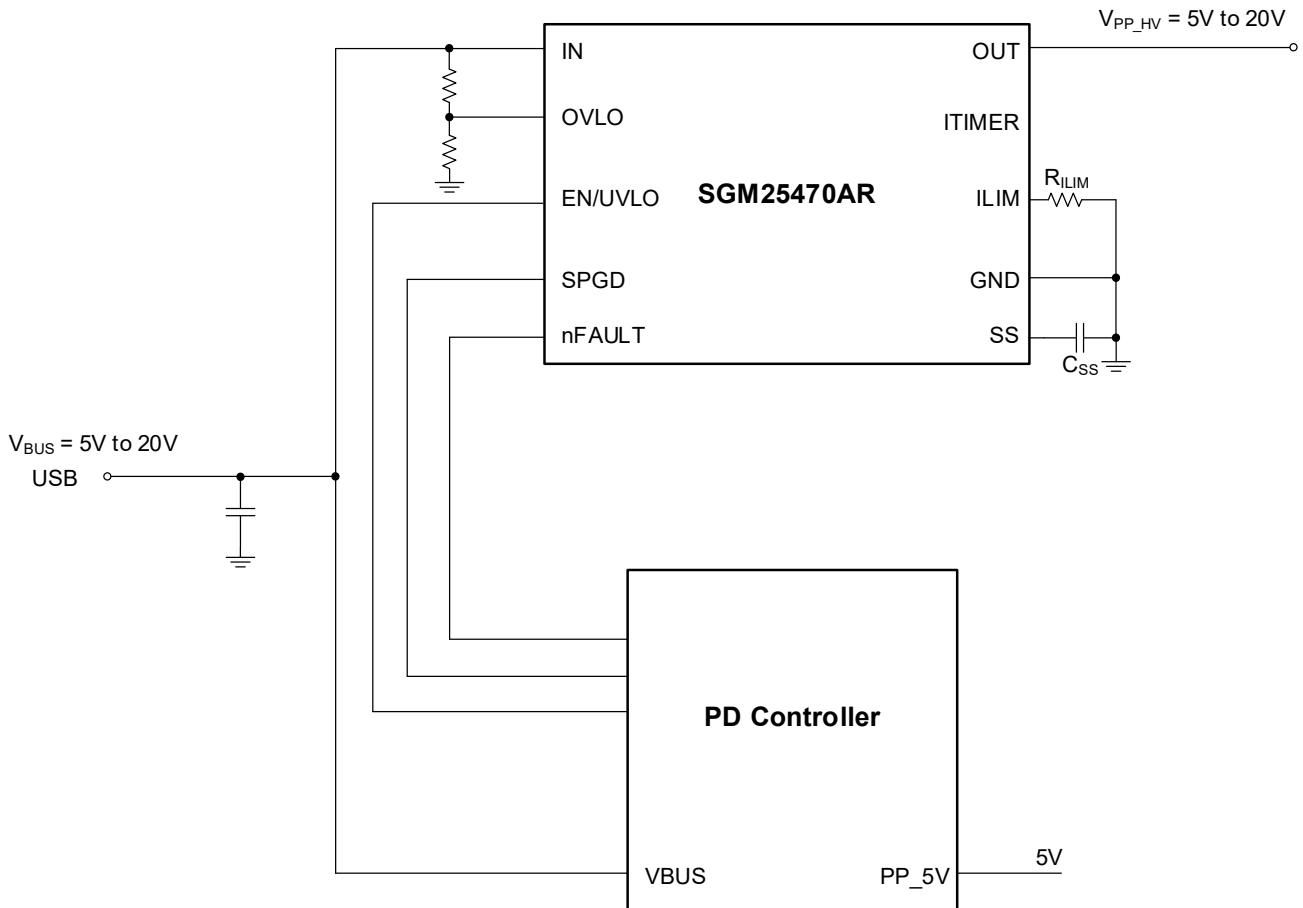

Figure 33. USB PD Port Protection
End devices such as PCs, notebooks, docking stations, and monitors support USB power delivery (PD) ports configurable as a DFP (Source), UFP (Sink), or DRP (Source/Sink). The SGM25470 can serve as a fully integrated power path management solution for USB PD ports, as illustrated in Figure 33.